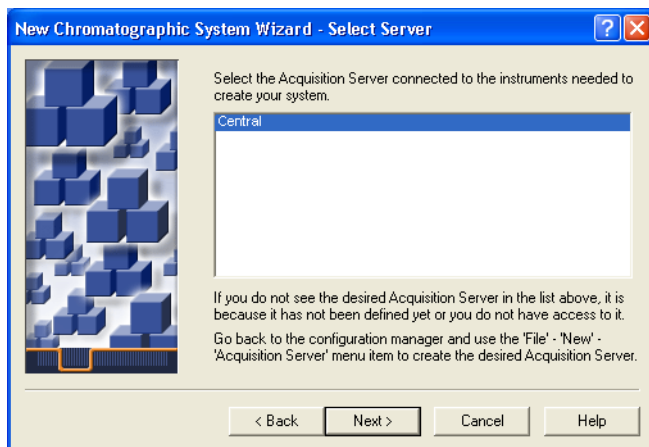

Figure 3-6 New Chromatographic System Wizard–Select Server Page
2. Accept the default setting (Create New System), then click **Next**. The Select Server page appears (Figure 3-6).